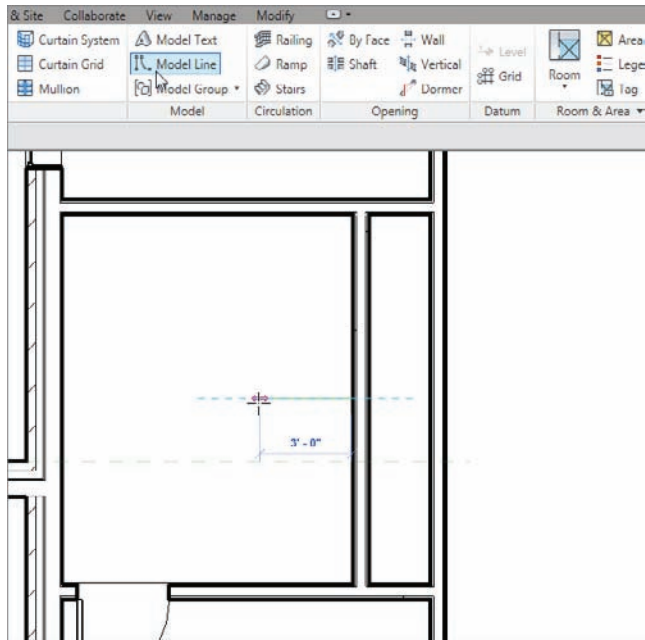

FIGURE 6.47 Drawing a line to establish the point where the floor will slope to
1. On the Home tab, select the Model Lines button, as shown in Figure 6.47.
2. Draw the line from the midpoint of the restroom's right wall, to the left 3'-0" (900mm), as shown in Figure 6.47.